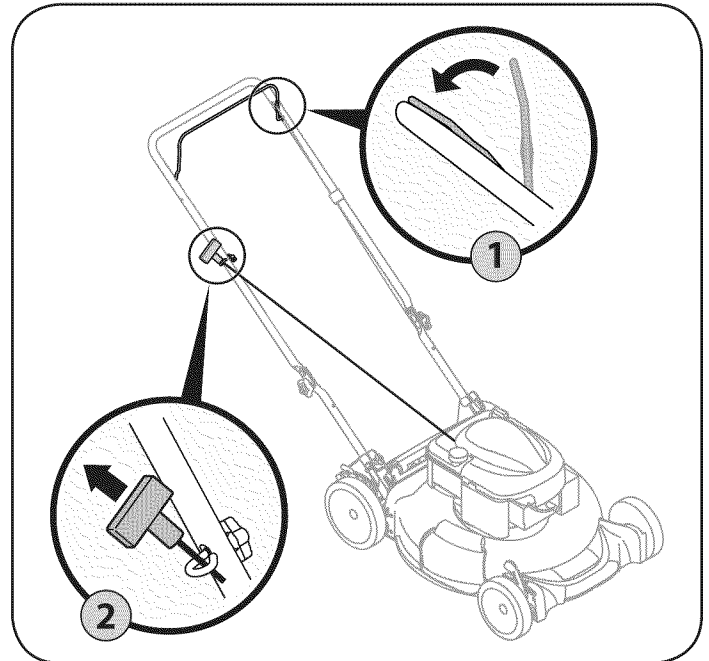

Figure 14
1. Standing behind the mower, squeeze the blade control handle against upper handle. See Figure 14.
2. Holding these two handles together firmly, grasp recoil starter handle and pull rope slowly until resistance is felt, then pull with a rapid, continuous, full arm stroke. See Figure 14. Keeping a firm grip on the starter handle, let the rope rewind slowly. Repeat until engine cranks. Let the rope rewind each time slowly.